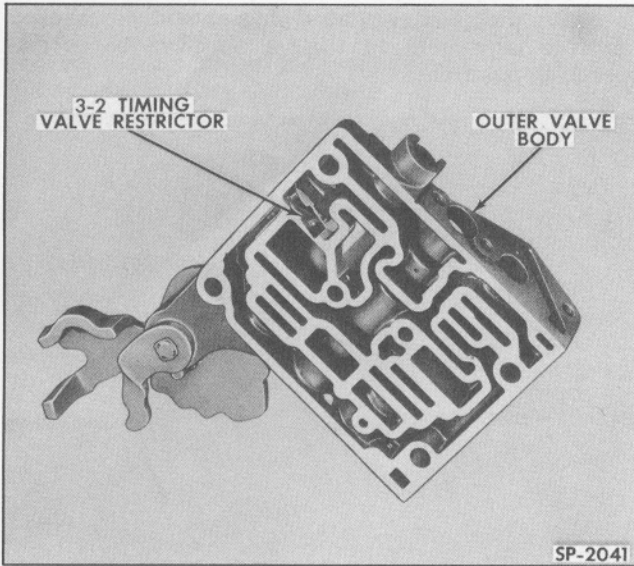

Fig. 43—Timing Valve Restrictor
5. Check the 3-2 timing valve restrictor in the outer valve body for obstruction. The restrictor must fit flat against the spacer plate. Lay a straight edge across the restrictor and press down against the outer valve body to check proper contact when assembled. Position the spacer plate over the outer valve body and check alignment of the restrictor valve orifice with the hole in the spacer plate (Fig. 43).
1. Hold the outer valve body in one hand with the flat inner surface upward and install the 3-2 timing valve restrictor (See Fig. 43).